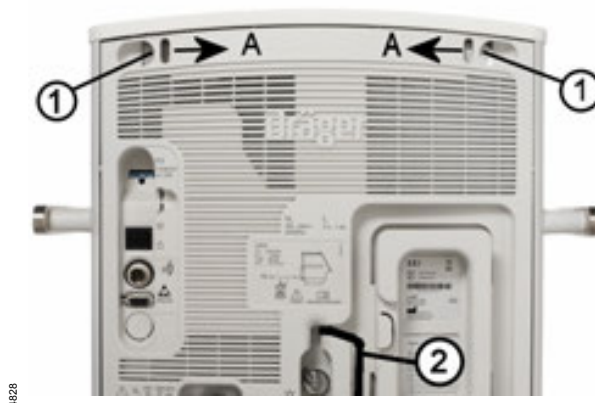
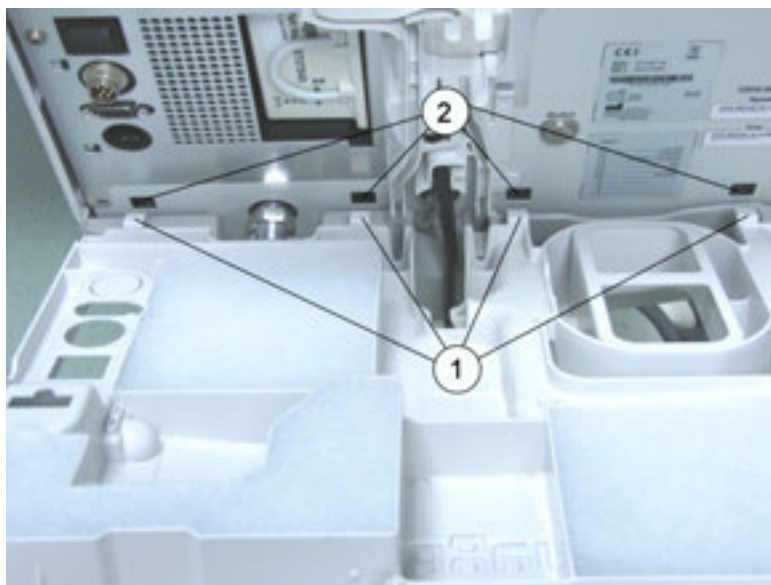

Fig. 78 Savina 300 rear; filter cover
Fig. 80 Detail view of filter cover: Fitting
- 1 Reach into the openings in the filter cover on both sides, press the catches concealed behind them (Fig. 78/1) simultaneously towards **A** slightly, move the filter cover back and take the filter cover out of the rear panel.
- 2 Withdraw the power cable (Fig. 78/2) from filter cover guide.
- 2 Slot the pegs (Fig. 80/1) on the underside of the filter cover into the recesses (Fig. 80/2) in the rear panel, swivel the filter cover upwards and with the catches (Fig. 78/1) press the filter cover into the rear panel until it locks in place.
- 3 Lay the power cable (Fig. 78/2) around the filter cover guide, as shown in the illustration.